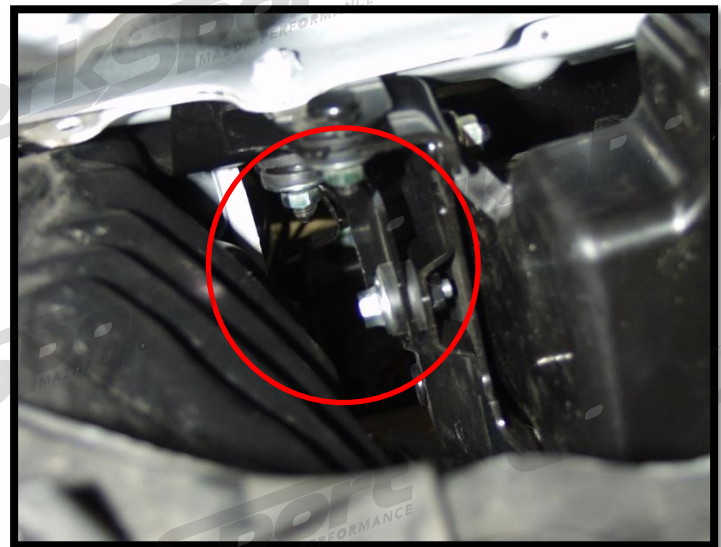

Figure 2b
- b) Remove the lower intake resonator. Remove the three (3) 10mm nuts and bolt (circled in red in Figure 2b).
- b) Remove the lower intake resonator. Remove the three (3) 10mm nuts and bolt (red circle in Figure 2b).